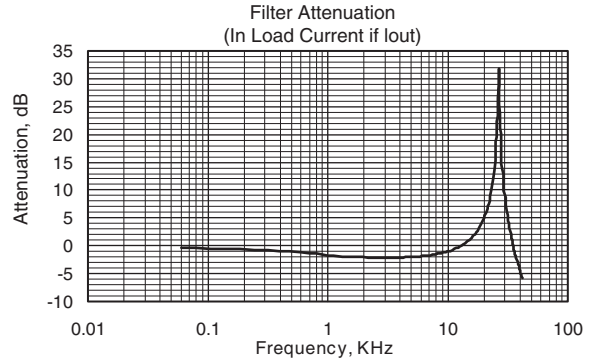

FIGURE 34. THE CAUSE OF THE FEEDBACK FACTOR DIP IN FIGURE 31
1. The only option causing a significant change in the 1/Beta plot or the square wave test is the use of large filter capacitors and no matching network. The reason for the dip below 0dB at 27KHz is very high voltage mode peaking as shown in Figure 34. We already knew this was something to avoid, but read on for other reasons to stick with the original design.